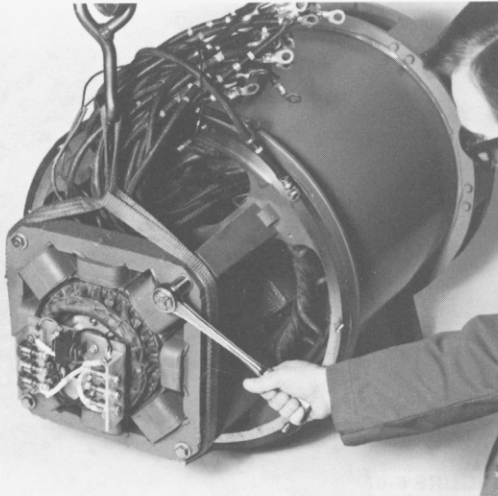
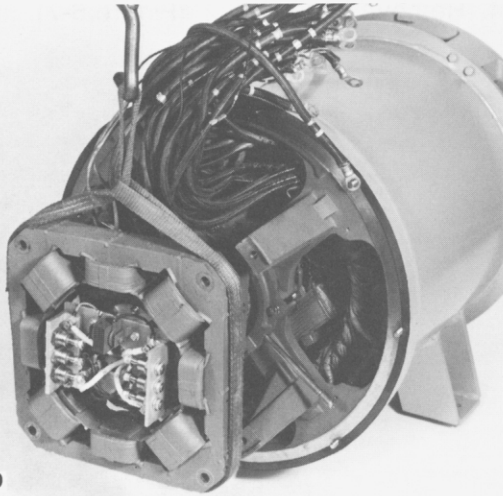

FIGURE 6-8
FIGURE 6-9
2. Remove all cabling so the F1 and F2 leads can be removed with the exciter stator. Remove the four capscrews and belleville washers holding the exciter stator in place. (Figure 6-8.) Remove the exciter stator. Using a lifting strap or fixture. (Figure 6-9.)